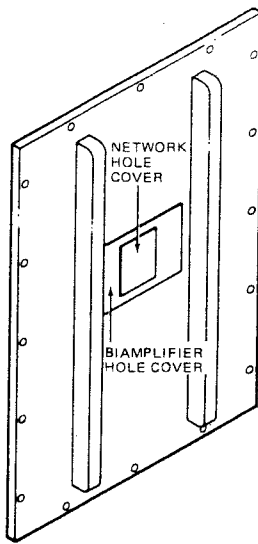
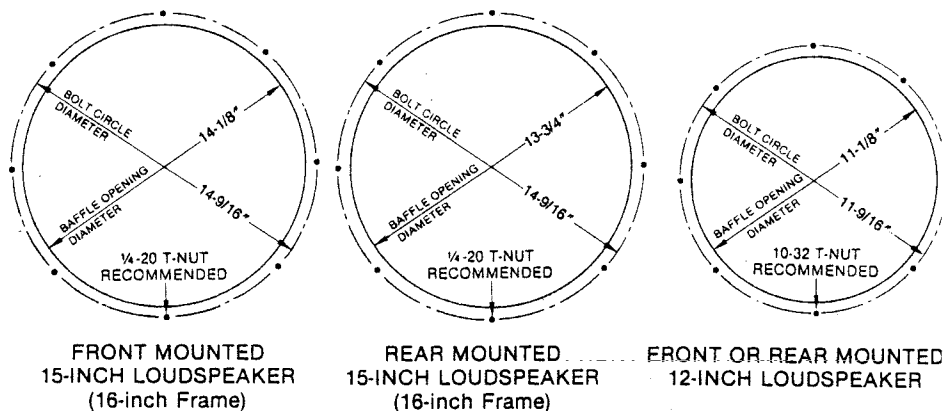
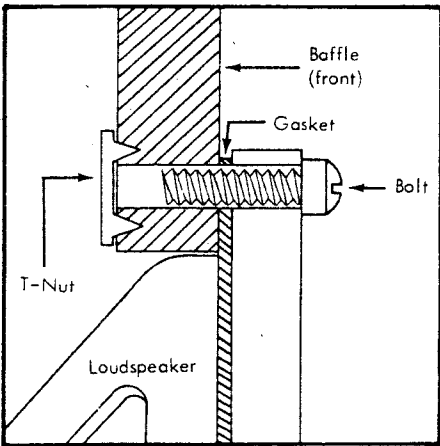

Figure 2. Rear Panel with Covers
Figure 1. Mounting Parameters for 12-inch and 16-inch Loudspeakers
Figure 3. Front Mounted Loudspeaker
- Rear access panel has dual cover panel (see Figure 2). Smaller panel covers hole for mounting network; larger panel covers hole for mounting biampfier. Remove network hole cover and store for later potential use. Retain four 8-32 x 1" oval-head machine screws used to secure cover.
Figure 1 shows dimensions necessary to mount ALTEC loudspeakers used with applicable crossover networks. Figure 2 shows the mounting dimensions for networks.
Networks are installed with T-nuts and bolts to a surface having a cutout of dimensions shown in Figure 2. Use the template given at the end of these instructions to facilitate installation. Fix the template to the surface where the network is to be mounted. Use a
Low frequency loudspeakers are installed with T-nuts and bolts to a baffle having a cutout and mounting bolt pattern appropriate for the loudspeaker (see Figure 1). Several models of loudspeakers may be front or rear mounted as shown in Figures 3 and 4. For loudspeakers weighing more than 10 pounds, a baffle of 3/4-inch plywood free from voids is recommended. To install the loudspeakers, use the following procedure:
1. Locate and scribe circles for the speaker hole and the mounting bolts according to the particular speaker (see Figure 1). Cut out smaller (speaker hole) circle; a suggested method is to make the cut very slightly undersize and use a wood rasp or file to finish edge to exact size.
5. Insert all T-nuts in mounting holes according to front or rear loudspeaker mounting option (see Figures 3 and 4). Gently hammer each T-nut in place until T-nut faces are flush with baffle surface.
6. Install the loudspeaker (per Figure 3 or 4) in the mounting hole. Secure the loudspeaker to all T-nuts with appropriate sized bolts.